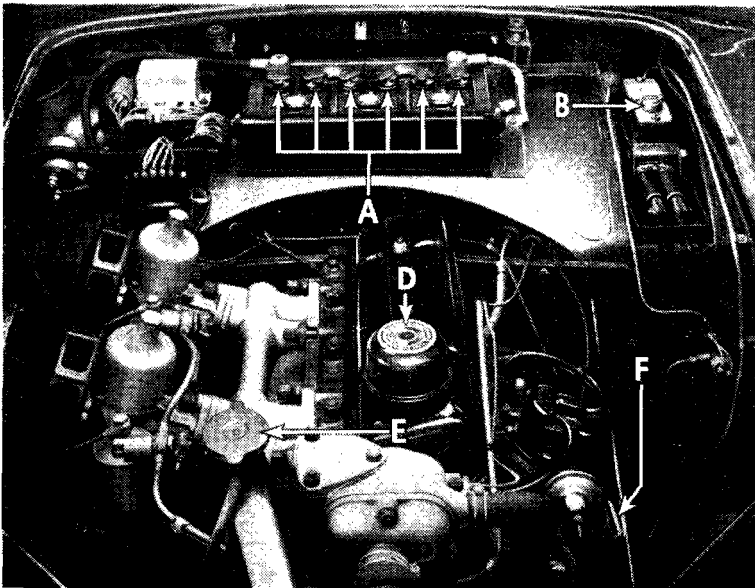

Fig. 3. View under bonnet.
Every 250 miles (400 km.) the engine oil level should be checked and topped up if necessary. Withdraw dipstick [(F) Fig. 3] and wipe clean, then insert and push fully home before withdrawing for reading. Should the level be at the lower mark on the dipstick, 4 pints (2.2 litres) of oil will be required for topping up. The regular addition of oil not only maintains the correct level, but also tends to keep up the quality of the lubricant. Replenishment is via the cap (D).
It is important that the filler cap on the combined hydraulic fluid reservoir, integral with the master cylinders (see arrow **B** Fig. 3, page 11), should be removed every 5,000 miles (8,000 km.), the fluid level checked and topped up if necessary. The reservoir should be filled to within half-an-inch (12 mm.) of the top, and never less than half full (see page 51 or 52 for the correct fluid). As the cups in the master and all wheel cylinders are pure rubber it is imperative to use only the recommended fluid. Mineral oils would, in a very short time, distort and ruin them.